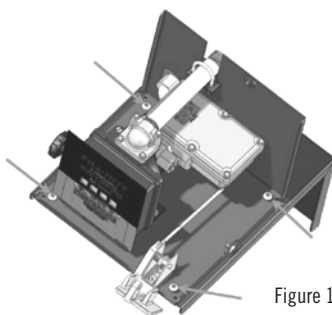

Figure 1
4. Place dispenser on mounting plate; using the 4 – 5/16 x 18 screws, nuts, and grommet washers, screw the dispenser securely to the mounting plate through the 4 holes located in the bottom of the dispenser cabinet base (Figure 1).